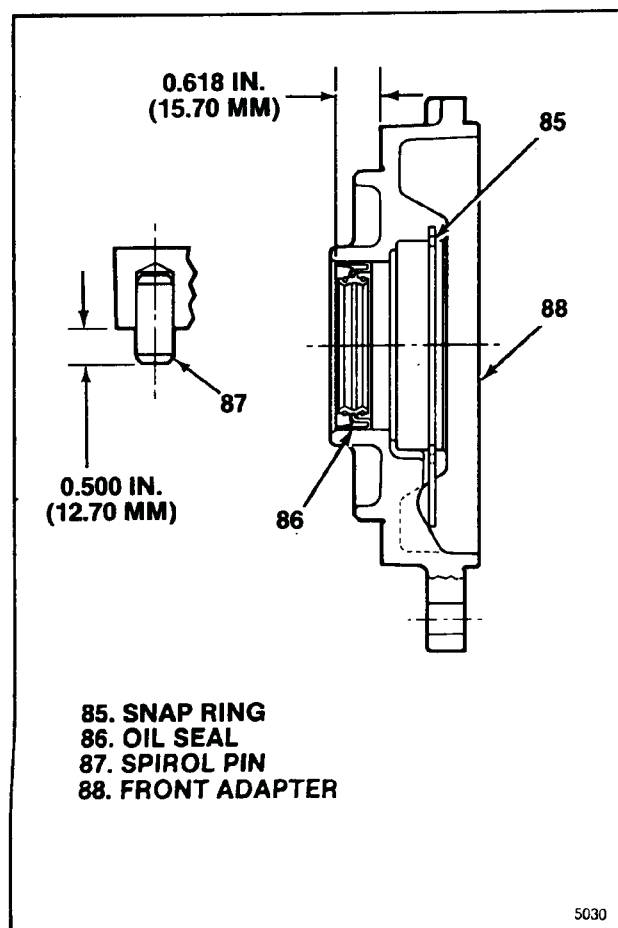

Figure 5-10. Front Adapter Assembly
f. Lift up gear carrier assembly (96) and install input shaft assembly (91) up through gear carrier assembly. Install thrust washer (95) and press bearing (90) over end of input shaft assembly. Retain bearing on input shaft with retaining ring (89) in shaft groove.
g. If removed, press new pin (87) into front adapter (88) to dimension shown in figure 5-10.
h. Apply Loctite 609 to bore area in front adapter (88) where oil seal (86) is to be installed (see figure 5-10). Position oil seal as shown in figure 5-10 and press into front adapter to dimension shown.